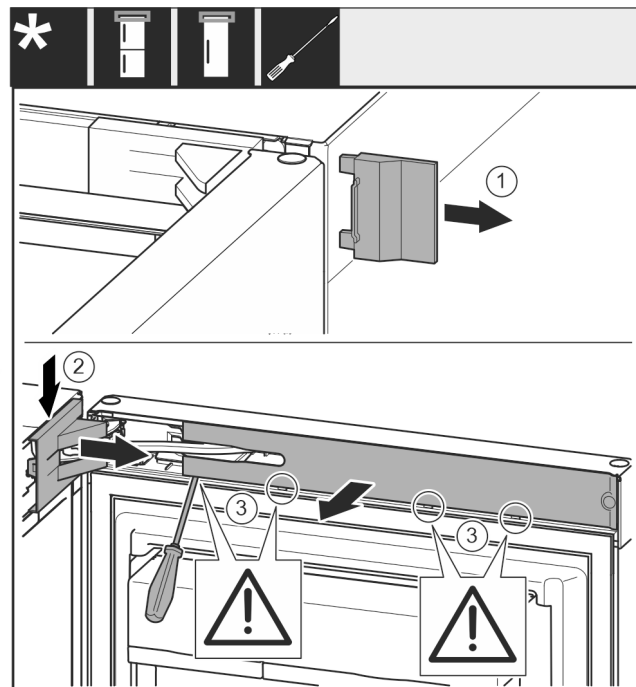

Fig. 5
- ▶ Remove the outer cover. *Fig. 5 (1)*
- ▶ Disengage and release the bearing bracket cover. Remove the bearing bracket cover. *Fig. 5 (2)*
- ▶ Unlatch the panel with a slotted screwdriver and swivel it to one side. *Fig. 5 (3)*